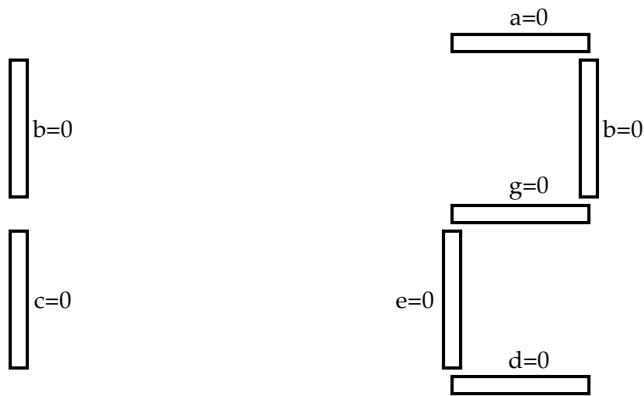

Fig. 2.1.2: Companion figure for Table 2.3.1.
- 2.3. Modify the above code appropriately with the help of Table 2.3.1 and Fig. 2.1.2 to generate the numbers from 0-9 on the display.